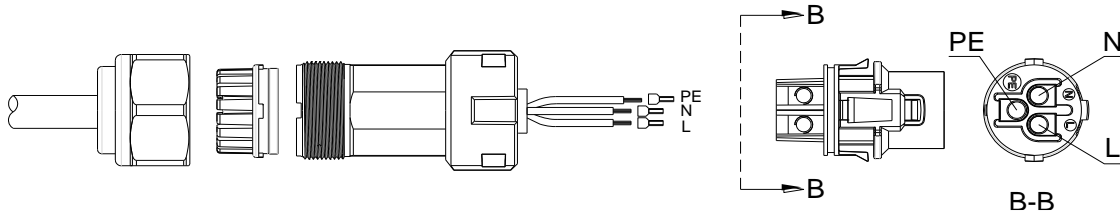

FIG. 7-5 AC Terminal Positions
- 3) Insert L, N, and PE conductors into the corresponding pins of the plug (as per FIG. 7-5), then tighten the fastening screws by screwdriver to fix conductors firmly. Torque, 2 N.m.